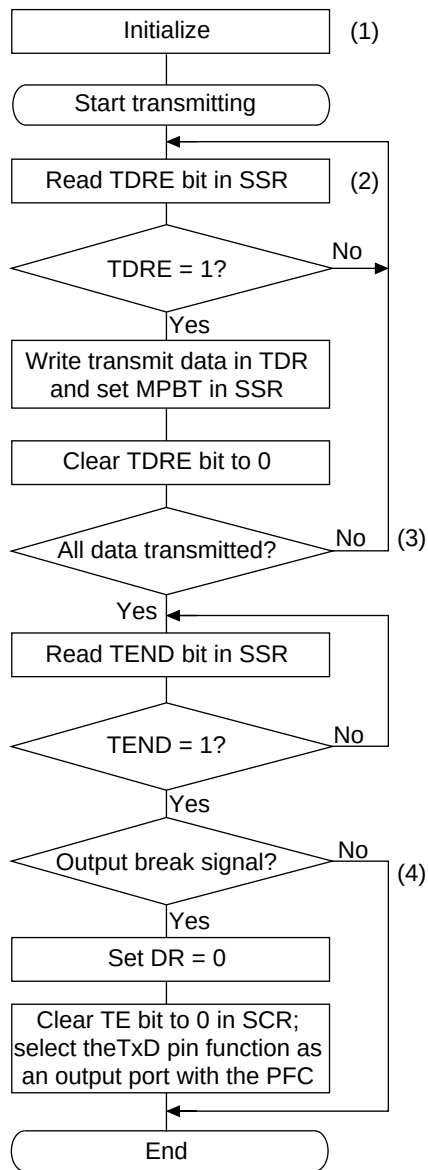

**Figure 13.10 Sample Flowchart for Transmitting Multiprocessor Serial Data**
**Transmitting Multiprocessor Serial Data:** Figure 13.10 shows a sample flowchart for transmitting multiprocessor serial data. The procedure for transmitting multiprocessor serial data is listed below.
3. To continue transmitting serial data: read the TDRE bit to check whether it is safe to write (1); if so, write data in TDR, then clear TDRE to 0. When the DMAC is started by a transmit-data-empty interrupt request (TXI) to write data in TDR, the TDRE bit is checked and cleared automatically.